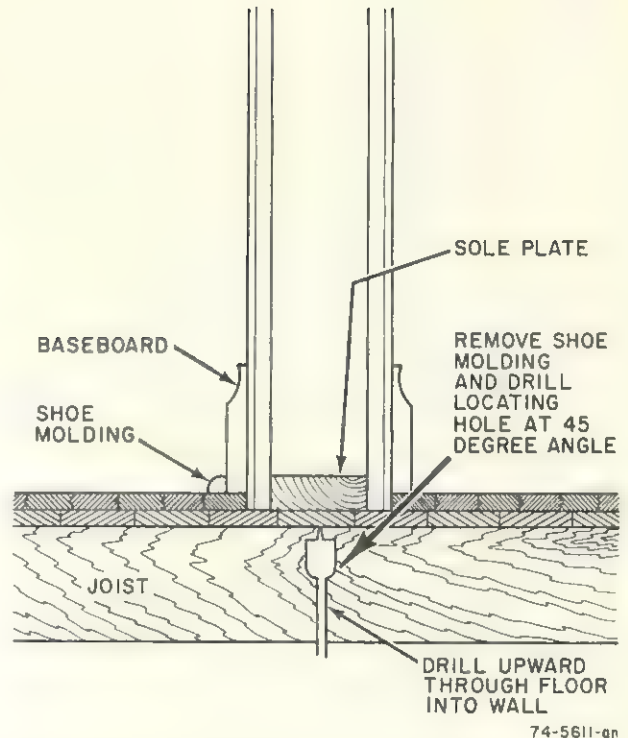

Fig. 40—Gaining Access to Interior Wall From Basement.
1. From the basement, drill a hole through the floor boards and sole plate into the wall (Fig. 40). Locate the hole in one of the following ways.